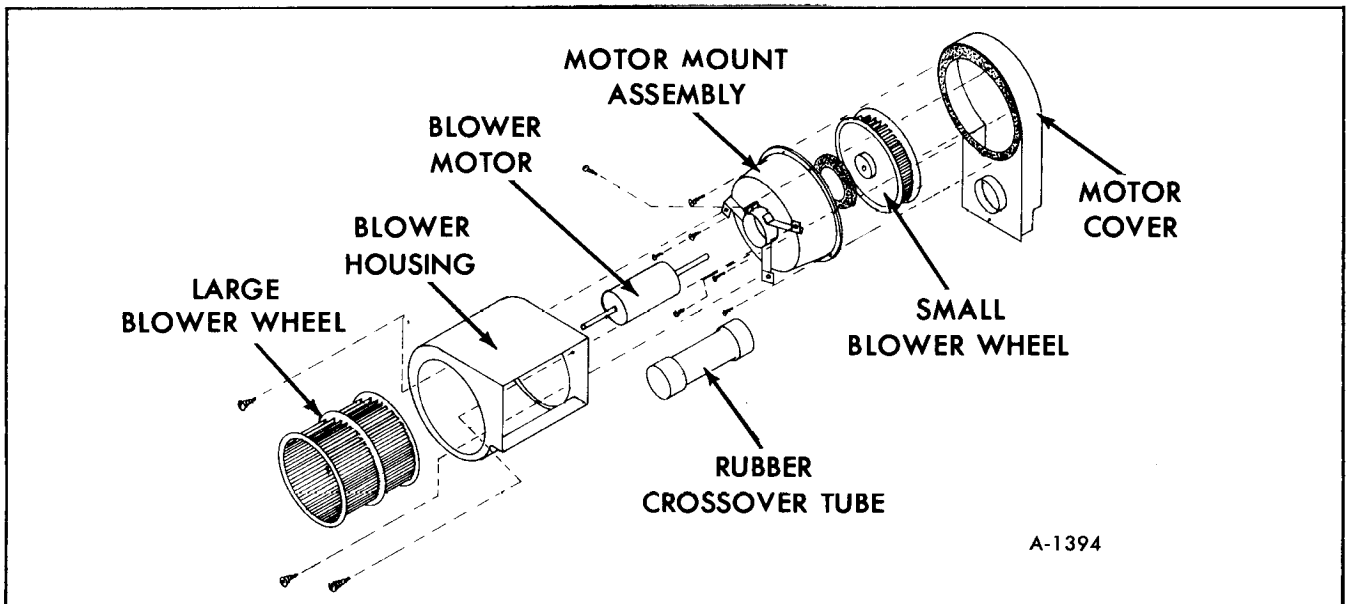

Figure 28—(NT-32G) Blower Assembly
BLOWER ASSEMBLY (NT-32G) (FIGURE 28)
7. Remove three screws and nuts holding large blower wheel housing (Shown in figure 28).
10. Remove small blower wheel (1/8" Allen wrench) (Figure 28).
2. Install small blower wheel (figure 28).
4. Install large blower wheel housing to motor housing brackets (See figure 28) (3 screws and nuts).